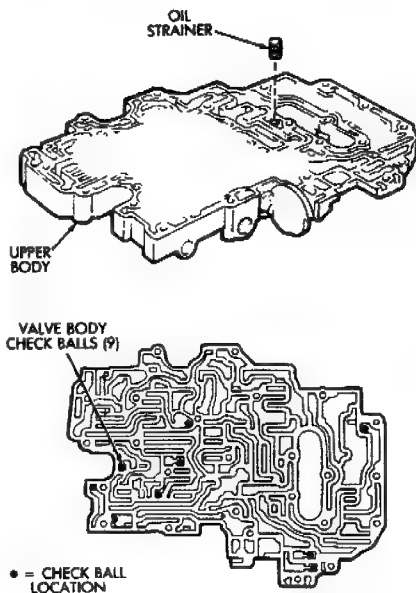

Fig. 2 Check Ball And Strainer Location
- (2) Remove strainer and nine check balls (Fig. 2). Note check ball and strainer position for assembly reference.